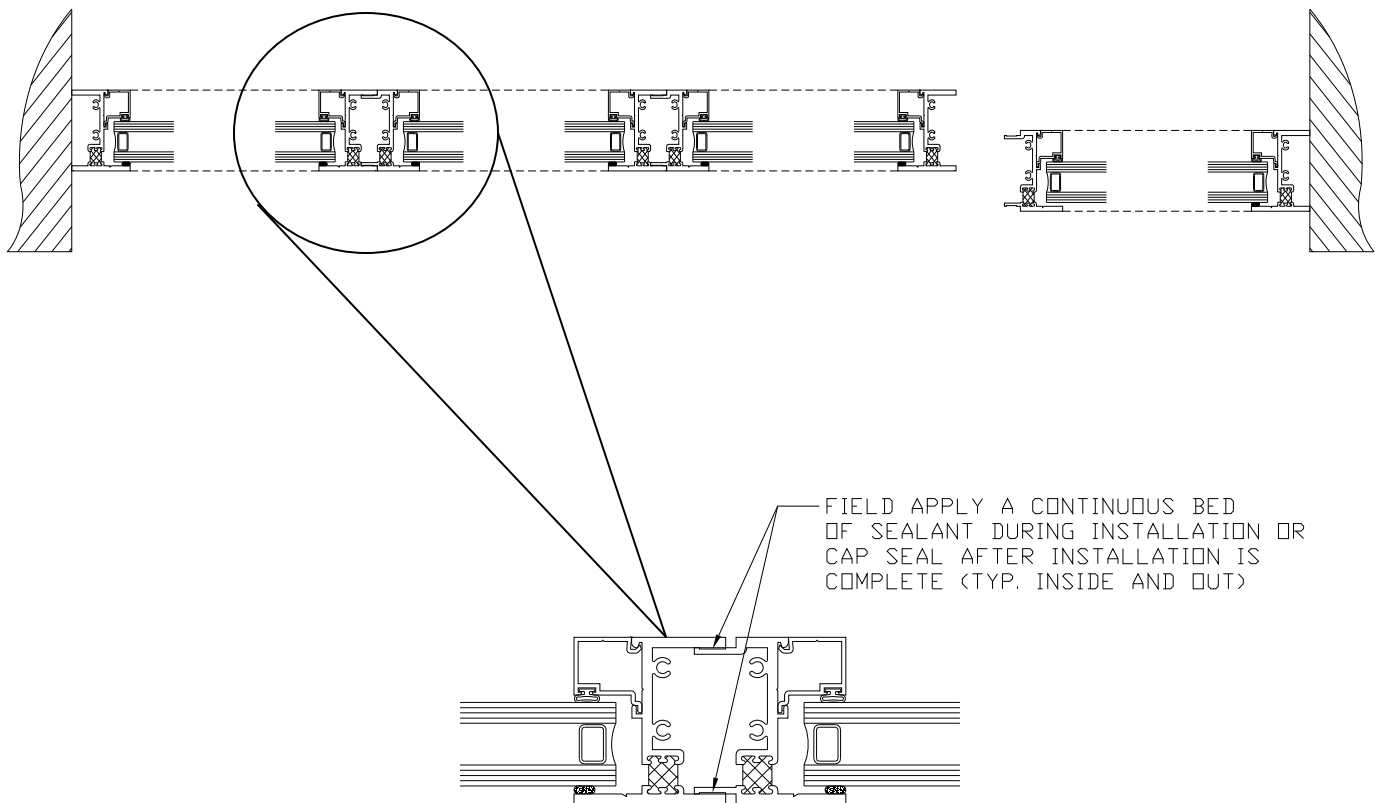

FIGURE 11-1
2. If a receptor system is being used, the recommended procedure is to set the units individually while applying a continuous bed of sealant to all joints (See Figure 11-1).